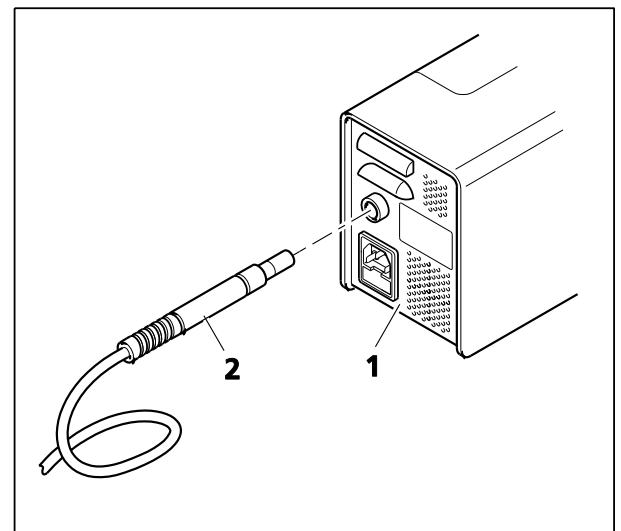

Fig. 18 Connecting the optical fiber to the X-Cite illuminator
- Plug the other end of the optical fiber (Fig. 18/2) as far as it will go into the X-Cite illuminator (Fig. 18/1).